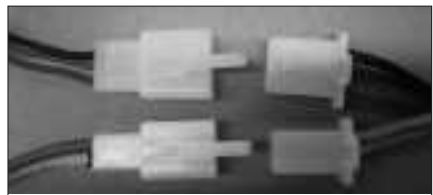

Fig. 4
2. Connection of connectors (See Fig.4)